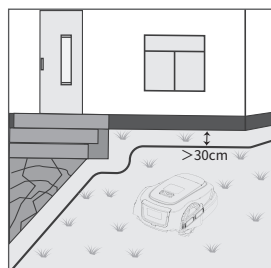

Fig.3-3-3
- Make sure to keep a space of 30cm between the boundary wire and the edge of the lawn (Fig.3-3-3).